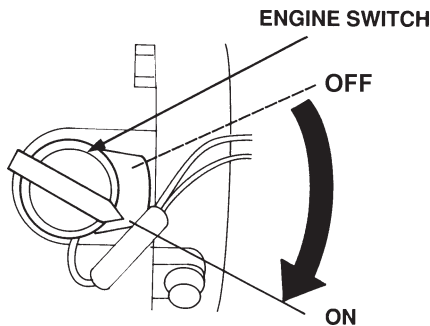

Figure 7. Engine ON/OFF Switch
- Turn the engine switch (Figure 7) to the ON position.